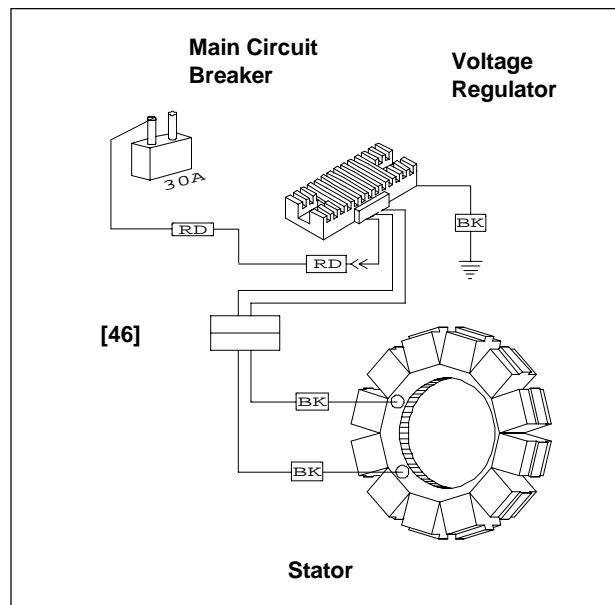

Figure 7-30. Voltage Regulator Wiring
2. See Figure 7-30. Locate voltage regulator connector [46] near the oil pump. Disconnect from alternator stator wiring.